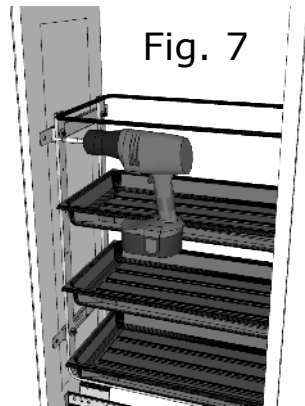

Fig. 7
8. Use double sided tape provided to temporarily hold the cabinet door in place. Once correct position is achieved attach door using (4) #6 x 1/2" flat head screws as shown in Fig. 7